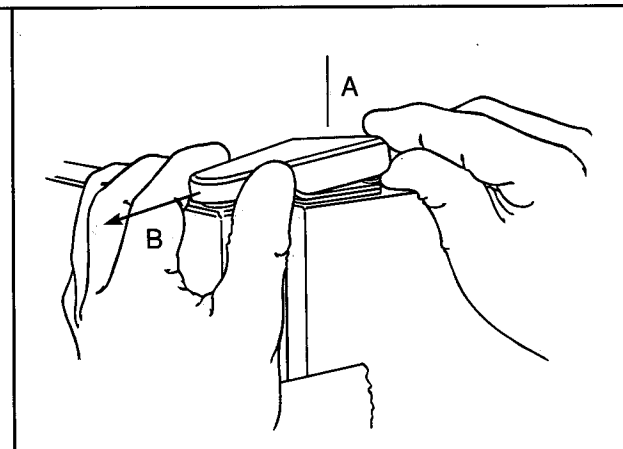

Figure 10
- b. Slide hinge cover toward front and off hinge. See Figure 10.